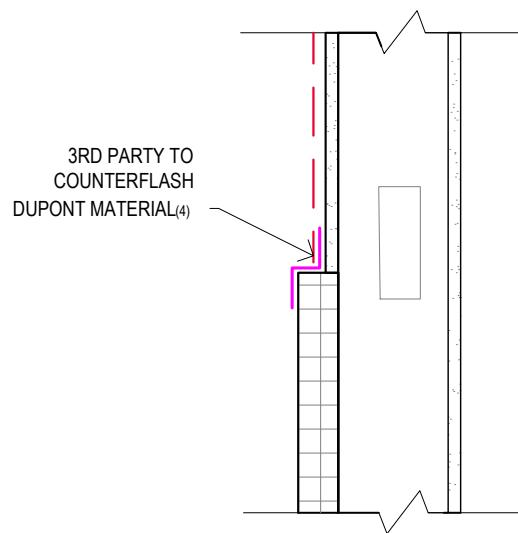

FIG 2: VERTICAL TRANSITION OF OTHER WRB TO THERMAX™ | SECTION
4. FIG. 2, 3, 4, MIN. WIDTH OF LIQUIDARMOR™ FLASHING REQUIRED BASED ON DETAIL TWS-G02 ONTO FACE OF INSULATION AND FACE OF OTHER SUBSTRATE. FIG. 2, 4 MIN WIDTH OF DURAGARD™ CM FLASHING TO ALLOW MIN. 2" ADHESION ON BOTH SUBSTRATES.